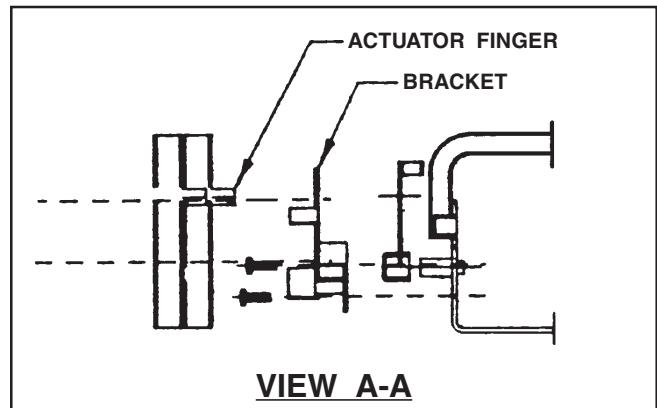

Fig. 2
4. Mount auxiliary actuator onto leg of bail, as shown in Fig. 2.